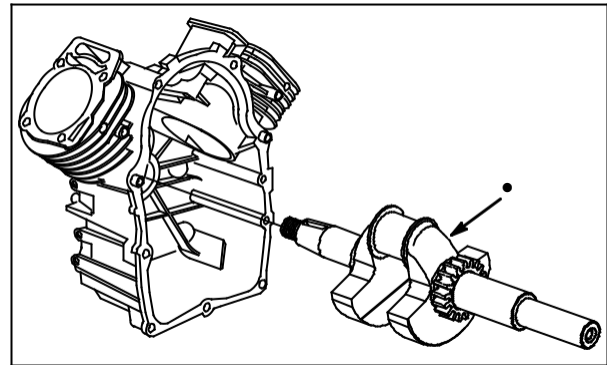

Fig. 28
Remove crankshaft (1) from cylinder, **Fig. 28**.